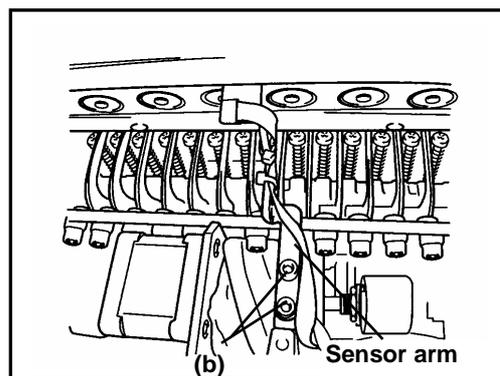

FIG.2
- (3) Putting a sensor arm into the slot of the thread sensor base and secure it with two setting screws (b). (Fig.2)